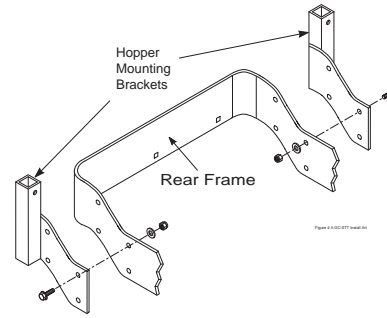

**FIGURE 4**
6. Install the blower mounting bracket to the deck using 1/2-13 x 1-1/2" hex head bolts (p/n 04001-71), 1/2" spring lockwashers (p/n 04030-06), and 1/2-13 elastic stop nuts (p/n 04021-07). See Figure 4, Page 3. Do not fully tighten the hardware at this time.
7. Install the catch plate (p/n 423297) to the blower assembly using 3/8-16 x 1-1/4" carriage bolts (p/n 04003-11) facing upward. See Figure 4, Page 3. Secure with 3/8" spring lockwashers (p/n 04030-04) and 3/8-16 elastic stop nuts (p/n 04021-09). Do not fully tighten the hardware.
9. Install the large hair pin through the rear hole in the discharge chute mounting bracket. See Figure 4, Page 3.